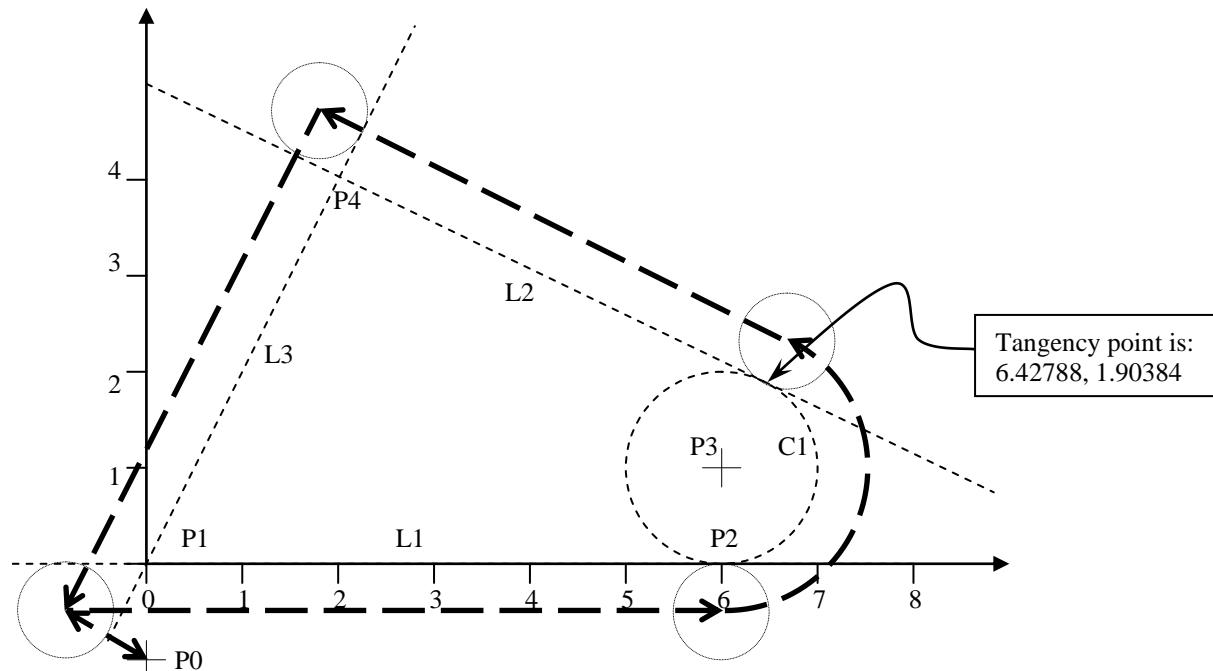

Figure 2. APT Geometry and Tool Path for Workpiece
2. An NC program for the profiling of the part in Figure 2 (see the APT Programming Notes) is to be generated. (See the APT Programming Notes) The processing parameters are: (a) feed rate is 5.39 inches per minute; (b) spindle speed is 573 revolutions per minute; (c) a coolant is to be used to flush the chips; (d) the cutter diameter is to be 0.5 inches, and (e) the tool home position is (0, -1, 0). (Adapted from Groover, M. P. (1980). *Automation, Production Systems, and Computer-Aided Manufacturing*. Englewood Cliffs, NJ: Prentice-Hall. pp. 253-255.)